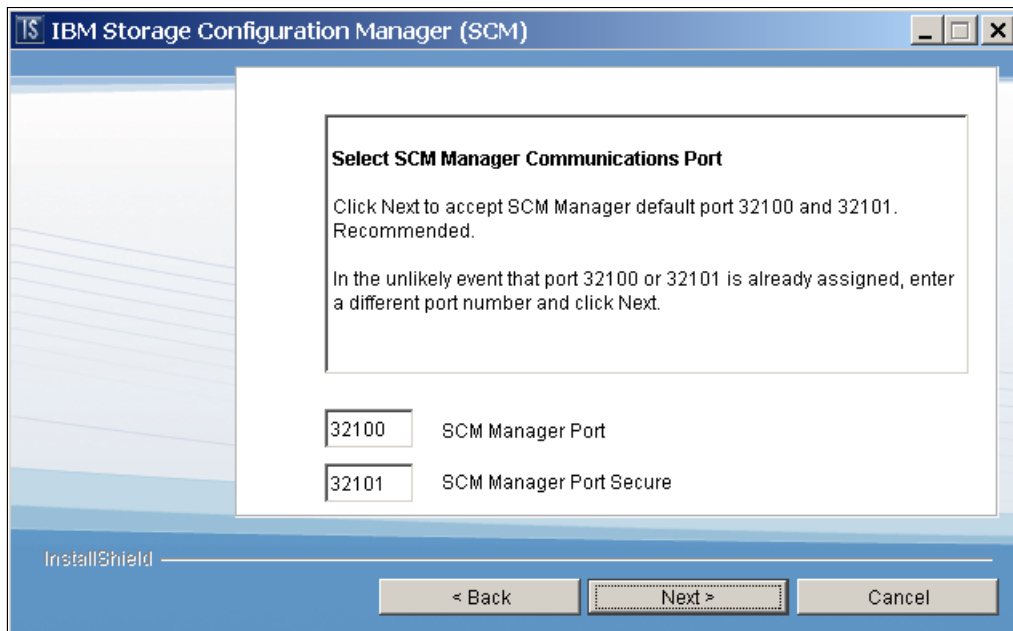

Figure 2-28 SCM Manager Communication Ports selection window
6. Select the ports SCM will use on the “Select SCM Manager Communications Port” panel (Figure 2-28). We suggest that you use the default ports unless they are already assigned. Click **Next**.